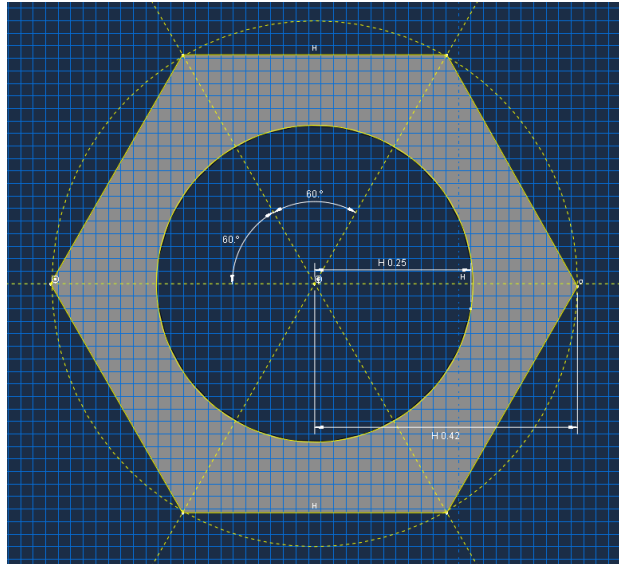

Figure L1-12. Nut profile before extrusion.
4. As done while creating the bolt part, sketch three construction lines passing through the center of the circles at an angle of 60 degree to each other, and then sketch a hexagon by joining the six points where these lines intersect the outer circle. The final sketch is shown in Figure L1-12.